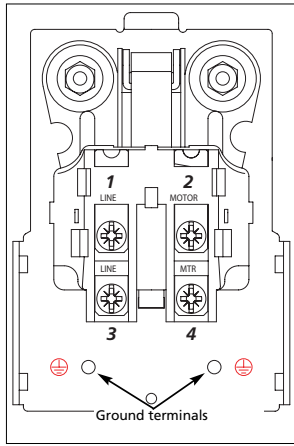

Figure 4
8. Position black motor wire underneath screw head #4 (See Fig. 4), then tighten screw to secure wire. Position black line wire underneath screw head #3, then tighten screw to secure wire.
- 9. Position white line wire underneath screw head #1, then tighten screw to secure wire. Position white motor wire underneath screw head #2, then tighten screw to secure wire (See Fig. 4).
- 10. Attach green ground wire from line cord to inside of pressure switch with ground screw provided in kit. Repeat procedure with green ground wire from motor cord. (See Fig.4)